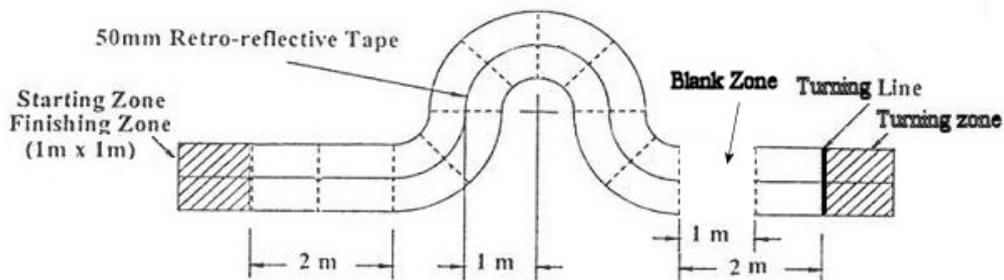

Fig.2 - Sample Legged Robot Race Track
Fig.2 shows a top view of an example of a competition race-track. It consists of a 4 straight segments (A) (excluding the Starting and Finishing Zones) and 8 circular segments (B). The ‘obstacle’ segments will be at different elevations of 50 mm or 100 mm off the ground. The final track layout will be decided by the judges after the caging of the robots.
- 4.3 The robot is to start from a stationary position in starting zone at one end of the track. It has to travel along the designated track either by walking, running or hopping, or any other motion not identified as wheeled motion. While walking on the track, the walking robot has to clear a blank zone (see Fig 2.) When it reaches to last square at the far end of the track, the robot has to make a 180deg turn in the turning zone and return to the starting point. The trailing edge of the robot must cross the turning line (see Fig 2) before it is allowed to make a turn. The turning line will be the same 50 millimetres wide retro-reflective tape placed before the start of the last square. To make the indication of the zones clearer, the start/finish zone and the turning zone will have a height 50mm lower then the adjacent track section. The robot is not allowed to walk back to the start point in reverse. A valid Record Time is measured from the instance any part of the robot crosses the starting line to the moment when the last part of the robot (trailing edge) crosses into the finishing zone. If any parts of the robot that drop of during a run, that run time will not be counted.